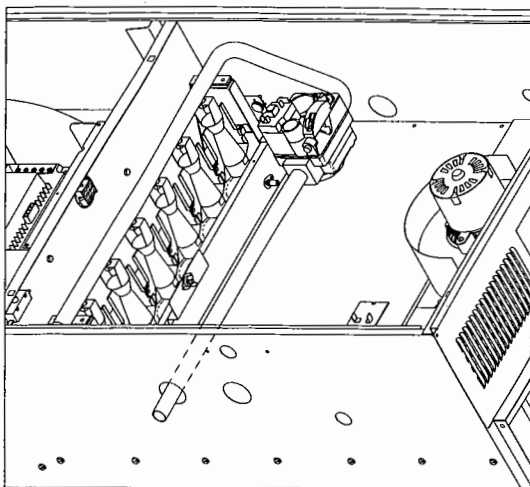

Fig. 5B - Gas Inlet Through Furnace Bottom Side
- Straight pipe to reach the exterior of the furnace. See Fig. 5B.